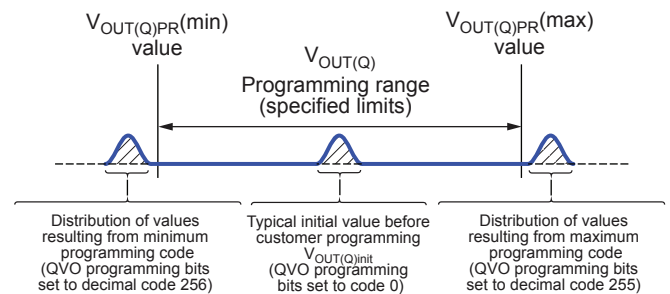

Figure 5: Quiescent Voltage Output Range Definition
**Output ( $V_{OUT(Q)init}$ )** Before any programming, the Quiescent Voltage Output,  $V_{OUT(Q)}$ , has a nominal value of  $V_{CC}/2$ , as shown in Figure 5.
The Quiescent Voltage Output,  $V_{OUT(Q)}$ , can be programmed within the Quiescent Voltage Output Range limits:  $V_{OUT(Q)PR}$  (min) and  $V_{OUT(Q)PR}$  (max). Exceeding the specified Quiescent Voltage Output Range will cause Quiescent Voltage Output Drift Through Temperature Range  $\Delta V_{OUT(Q)TC}$  to deteriorate beyond the specified values, as shown in Figure 5.